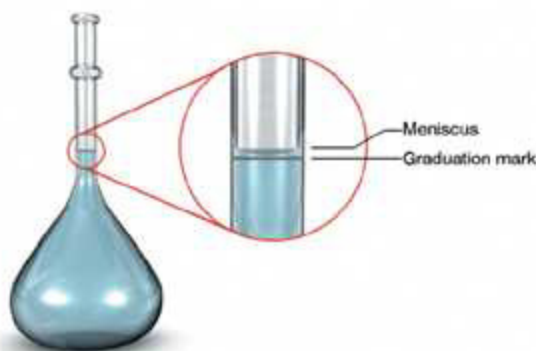

Figure 1.3.7: Filling to the calibration mark.
- The flask is made up to close to the calibration line with distilled water (Figure 1.3.7). The final volume may be added more effectively using a Pasteur pipette. The final volume is added with the volumetric flask positioned at eye level, until the bottom of the meniscus of the solution sits on the calibration line.